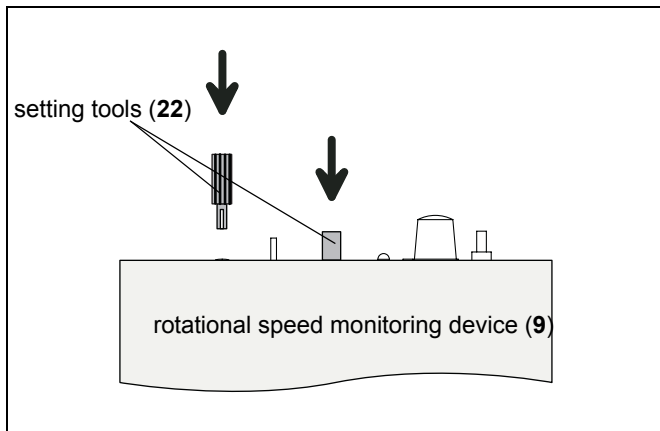

Fig. 5-1: Setting tools
The rotational speed monitoring device JMNC is delivered ready for operation. For setting the potentiometer the delivery includes two setting tools (22) made of plastic (s. fig. 5-1). Fastening screws etc. are not included in our scope of delivery. On request, the speed monitoring device can be delivered completely wired into an ISO plastic housing (incl. transparent hood).